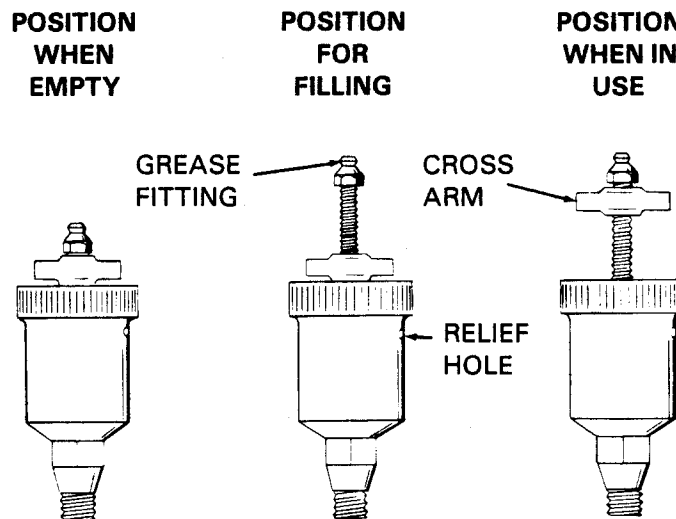

Figure 5. Automatic Lubricating Grease Cup
Before removing the seal assembly, turn the cross arm on the seal grease cup (17) clockwise until it rests against the cover (see figure 5). This will prevent the grease in the cup from escaping after the seal is removed.
Fill the grease cup through the grease fitting with a good grade of No. 2 lithium base grease until grease escapes from the relief hole. Turn the grease cup arm counterclockwise until it is at the top of the stem; this will release the spring to apply grease to the seal (see figure 5).